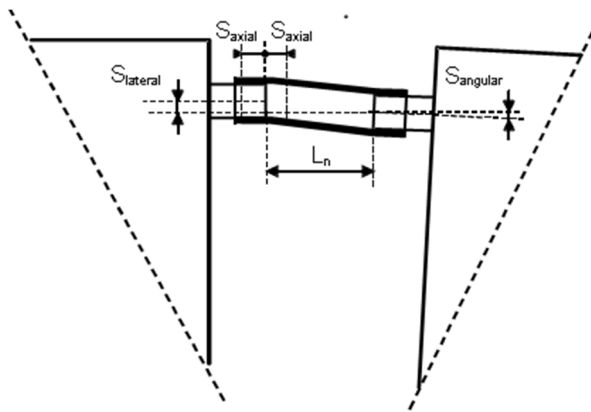

Figure 1: Definition of static load
- Static load: Installation error/tolerance and misalignment (Figure 1).